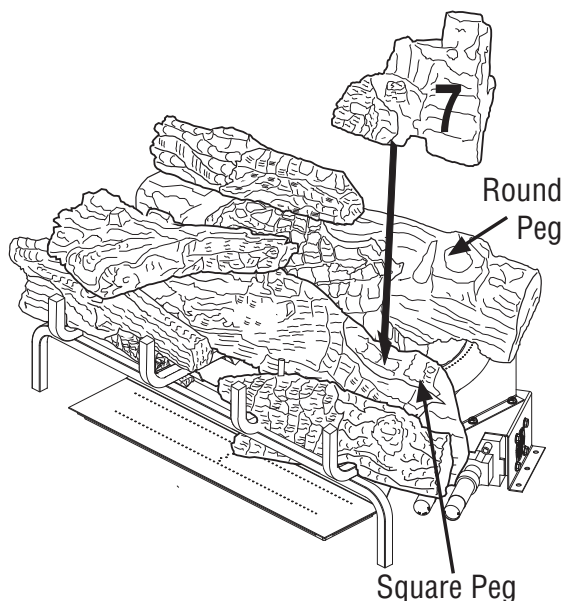

Figure 43 - Installing Log # 7
7. Place the right rear chunk log (#7) on top of the middle log (#2) and rear log (#1) as shown in **Figure 43**. Match the round peg on the top of the rear log (#1) with the round hole on the bottom of the right rear chunk (#7) log and square peg on the top of the middle log (#2) with the square hole on the bottom of the right rear chunk log (#7).